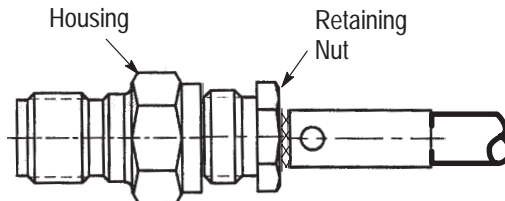

Figure 5
1. Place dielectric over center contact. See Figure 5.